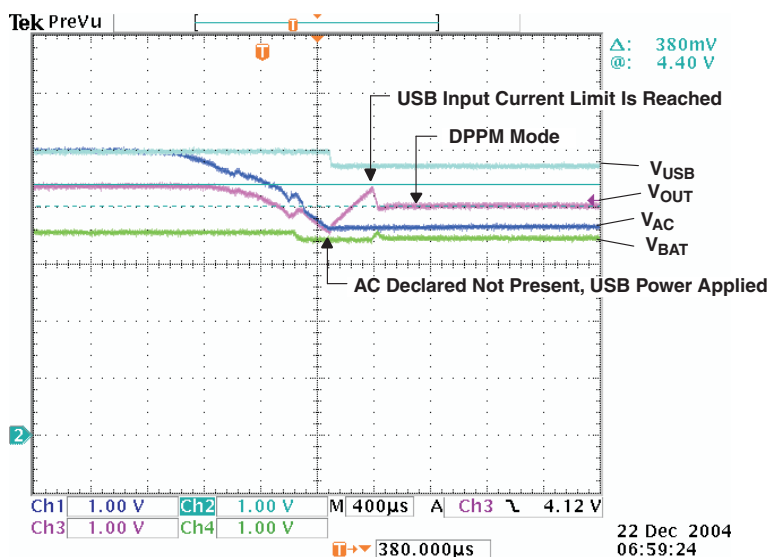

Figure 7. Remove AC – Power Transfer to USB
Figure 7 illustrates when AC is removed, power transfers to USB [PSEL = H (AC primary source), channel 1 (CH1) $V_{AC} = 5.4\text{ V}$, channel 2 (CH2) $V_{(USB)} = 5\text{ V}$, channel 3 (CH3) V_{OUT} , output current $I_{OUT} = 0.25\text{ A}$, channel 4 (CH4) $V_{BAT} = 3.5\text{ V}$, and $I_{(PGM-CHG)} = 1\text{ A}$]. The power transfer from AC to USB only takes place after the primary source (AC) is considered bad (too low, $V_{AC} \leq V_{BAT} + 125\text{ mV}$) indicated by the ACPG FET turning off (open drain not shown). Thus, the output drops down to the battery voltage before the USB source is connected (sixth division). The output starts to recover when the USB FET starts to limit the input current (seventh division) and the output drops to the $V_{(DPPM-REG)}$ threshold.